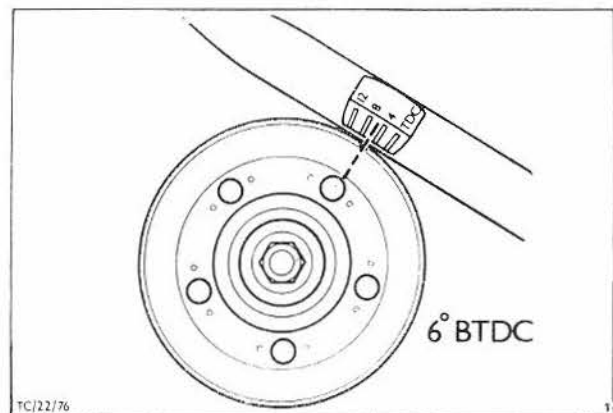

Fig. 15. Ignition timing marks, 1,1 litre LC to 1,3 litre 2V.
20. 'Tune' engine as specified in Section 23 with engine at operating temperature. Adjust dwell angle ignition timing. Fig. 15. Replace air cleaner and adjust idle speed and CO content.